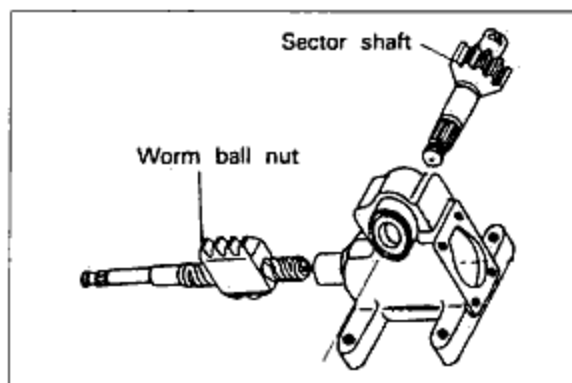

Fig. 10-24
5. Assemble the sector shaft as shown in the figure 10-24, so that the teeth of sector shaft and worm ball-nut may contact with each other in the center.